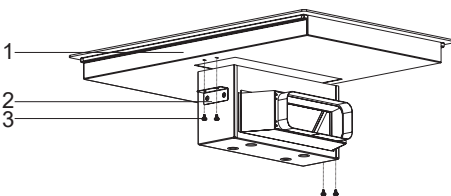

Fig. 30
- 9. Turn the clamping screws and remove the extractor hood inset (Fig. 30).
- 10. Remove the connecting fittings on the product (Fig. 30).